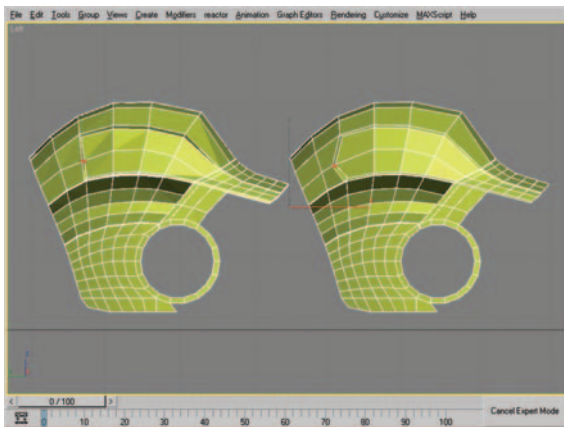

Figure 8.44 Single edge selected (left) and moved to a new location (right).
45. At the Edge subobject level select the edge seen in Figure 8.44 (left) and move it to the location seen in Figure 8.44 (right).